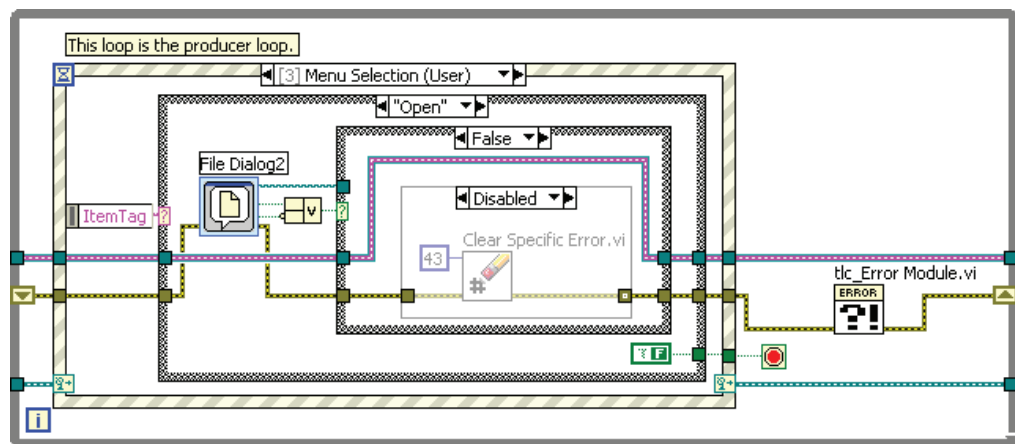

Figure 7-21. Producer Loop with Diagram Disable Structure
- ☐ In the producer loop, navigate to the False case in the Open case of the Menu Selection User Event structure, as shown in Figure 7-21.